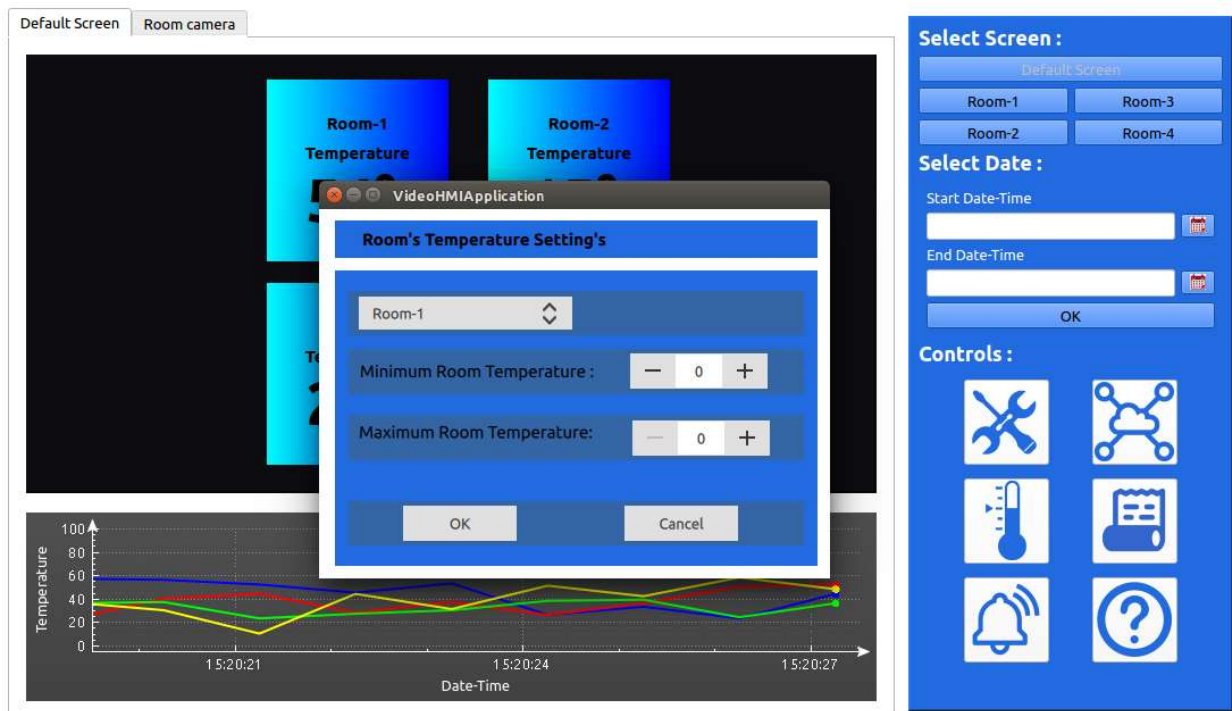

Figure 25 : Room Temperature Limit setting
- 4) Data History: (Figure 25)